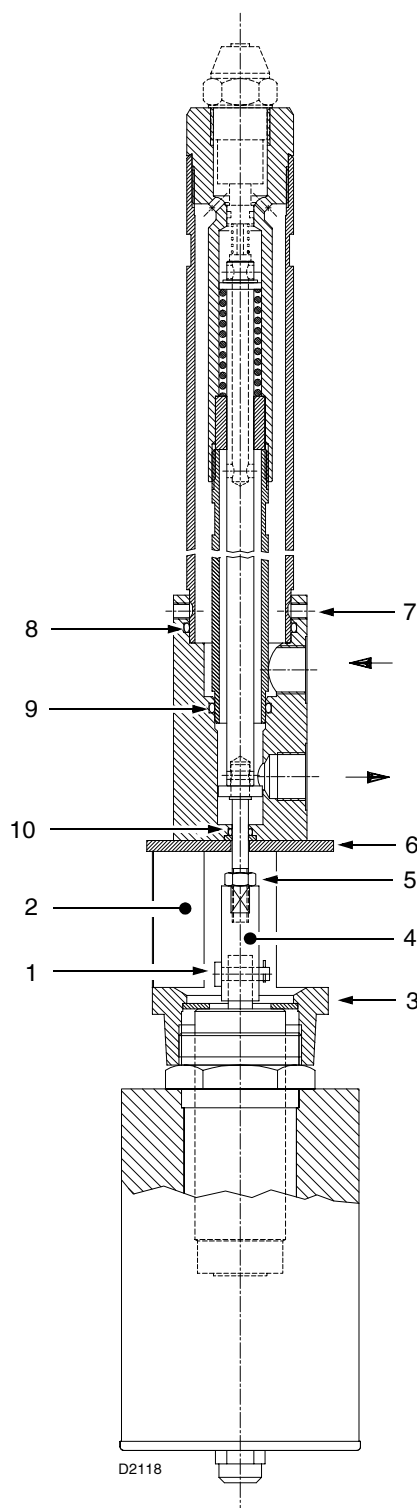

Fig. 36
- 1 Remove the lance from the burner (see Fig. 36).
- 3 Remove the pin (1) after removing the cover (2) and the safety split pin.
- 4 Remove the two nuts and bolts and connect the magnet support (3) to the coupling body.
- 6 Unscrew the joint (4) and the fixing nut (5) from the lance stay rod.
- 7 Dismantle the flange (6) by removing the two countersunk fixing screws.
- 8 Loosen the two nuts (7) and remove the coupling body.
- 9 Replace the O-rings (8) and (9) on the inside.
- 10 Remove the covering ring above the O-ring (10) and dismantle the O-ring.